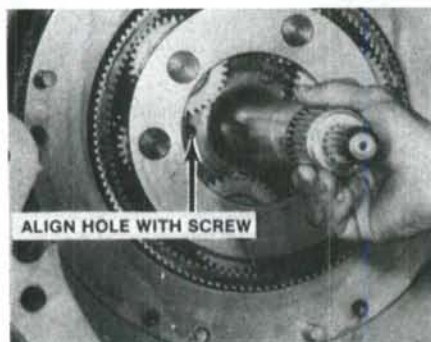

Fig. 151—Align hole in planetary input gear with hex head screw in bearing retainer. Refer to text.
145. PLANETARY REMOVAL. To remove planetary assembly from ring gear, align holes in planetary input gear with carrier retainer screws (28) as shown in Fig. 151, and remove screws with a 3/16 inch Allen wrench, then withdraw planetary assembly from ring gear. After planetary is out, remove needle thrust bearing and washers (38—Fig.